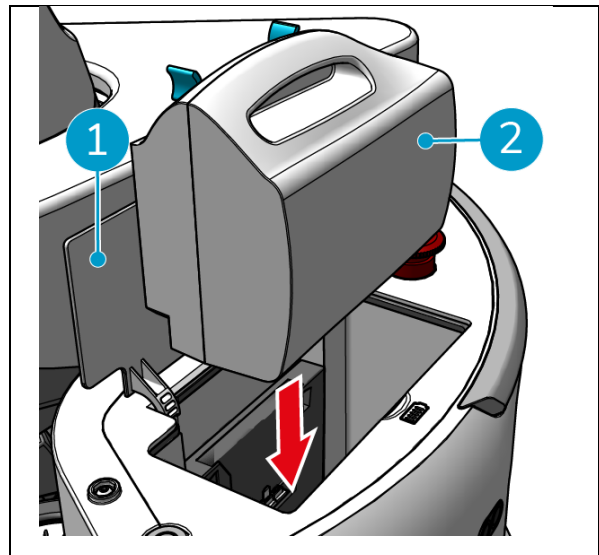

Figure 11
1. Open the battery compartment lid on the main unit (Figure 11, pos. 1).
2. Push the battery (Figure 11, pos. 2) in the battery slot. A click indicates that the battery is locked.